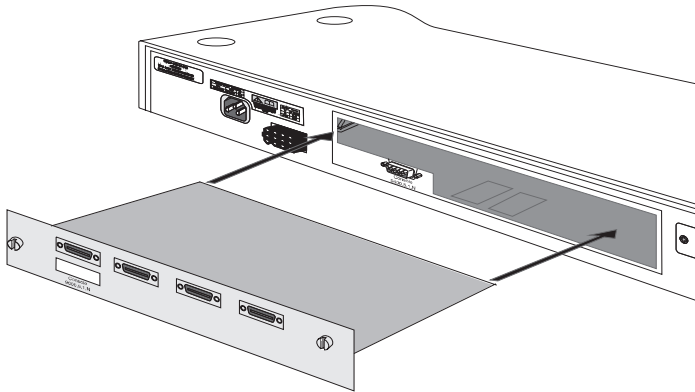

Figure 1 Inserting the Matrix Module into the Switch
- 2 Hold the Matrix Module so that the text on the front panel reads correctly, and guide it into the slot ensuring it is located in the rails. See Figure 1.